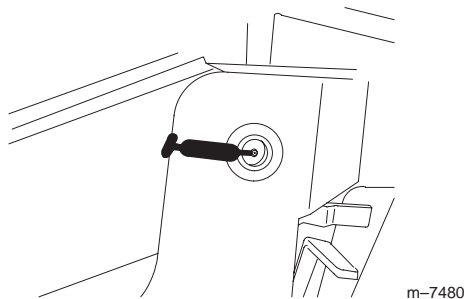

Figure 53
3. Connect a grease gun to each fitting (Fig 53 through 60).